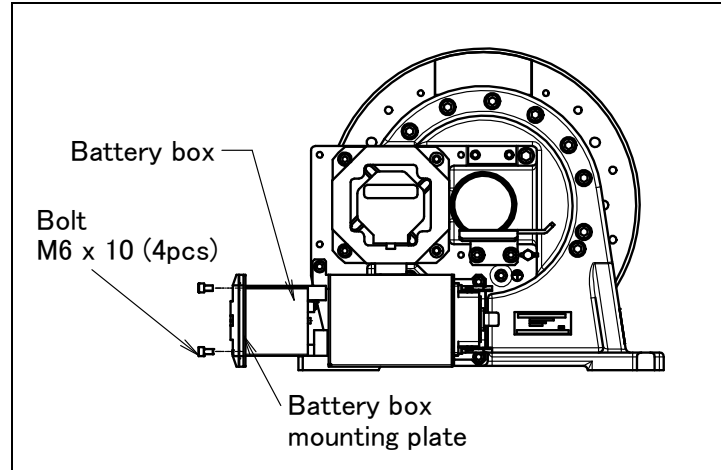

Fig. 6.1.1 (b) Removing the connector box (when the HARTING connector option is selected)
- 3 Remove the bolts (1) and remove the motor cover (2). (When the HARTING connector option or motor cover options is specified.)
- 4 After removing the battery box fixing plate while referencing Fig. 6.1.1 (b), remove the four M6 x 10 bolts and remove the connector box.